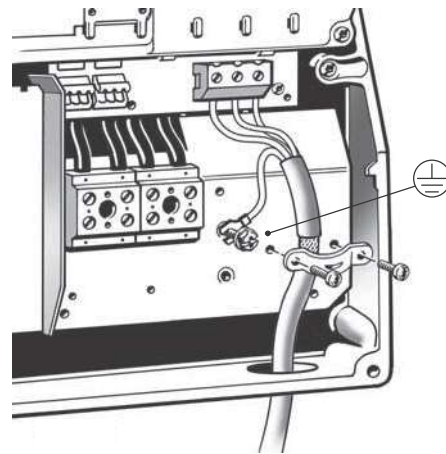

Fig. 24 Motor connection, B1 and B2
1. Connect the earth conductor to terminal 99 (PE). See fig. 24.
2. Connect the motor conductors to terminals 96 (U), 97 (V), 98 (W).